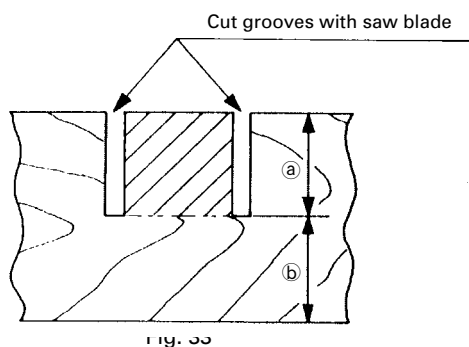

Fig. 33
Grooves in the workpiece can be cut as indicated in Fig. 33 by adjusting the 8mm depth adjustment bolt.
- (1) Loosen the 8mm wing nut and turn the 8mm depth adjustment bolt by hand.
- (2) Adjust to the desired cutting depth by setting the distance between the saw blade and the surface of the base (see ⑥ in Fig. 33).
- (3) The 8mm wing nut must be properly tightened after the adjustment has been completed.